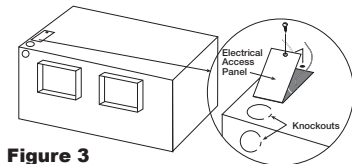

Figure 3
5. These fans are not recommended for cooking exhaust applications. They are designed primarily for low temperature, clean air applications only. Figure 3, page 6 shows the minimum distance these fans should be placed in relation to cooking equipment.
2. Remove either top or side wiring knockout, depending on wiring direction, by bending it back and forth to break tabs, shown in Figure 3.